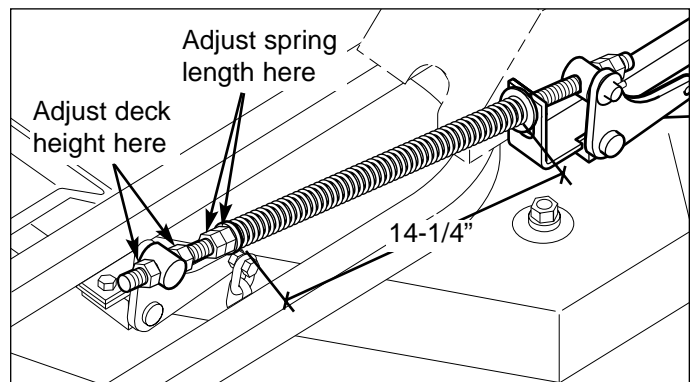

Figure 30. Mower Deck Adjustment
2. With the deck height adjustment pin in the 4" position, adjust the 5/8" hex nuts on either side of the front spring rod pivot (see Figure 30) until the rear lower edge of the cutter deck directly behind the chain is 3-5/8" from the floor. The front lower edge of the cutter deck directly in front of the eyebolt should be 3-1/2" from the floor (4-1/2" for ACP deck). If not, adjust the front deck hanger eyebolt to correct the cutting height. Perform this step to both rods.
3. With the deck height adjustments complete and cutting height still set at 4", adjust the deck lift spring to a compressed length of 14-1/4" (measure spring only). Adjust the length of the deck lift spring by tightening or loosening the (2) 5/8" hex nuts that are closest to the spacer at the front end of the spring (see Figure 30). After adjustment is made, tighten these two nuts together. Perform this step to both springs.